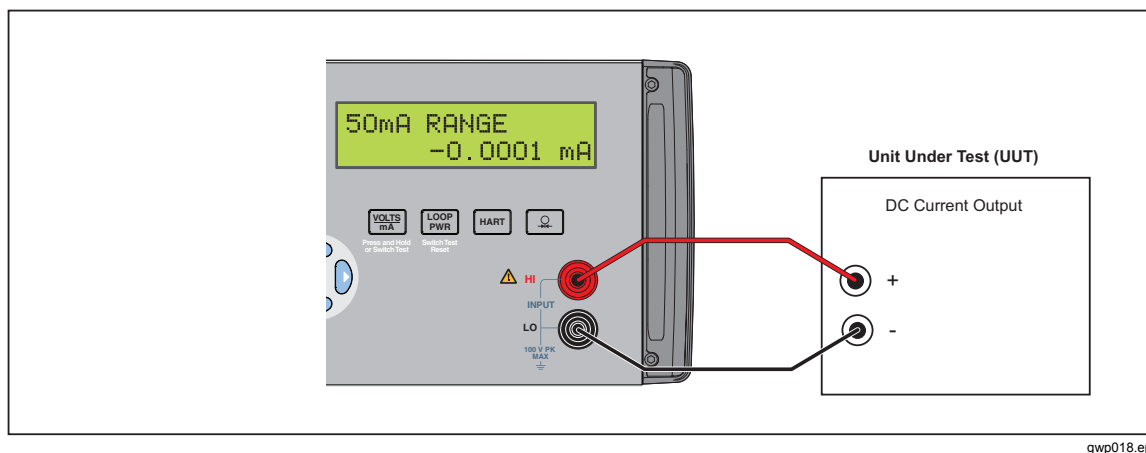

Figure 3-2. Isolated DC Current Input Connection
3. Connect the UUT to the isolated voltage/current input terminals of the Product as in Figure 3-2.